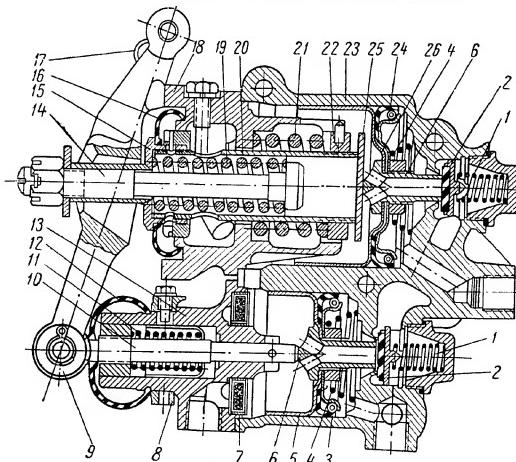

Fig. 30. Brake cock on MA3-200 Truck
**Brake cock** (Fig. 30) — combined, piston type. The upper larger diameter cylinder of the cock controls the trailer brakes, while the lower smaller diameter cylinder controls the Truck brakes.